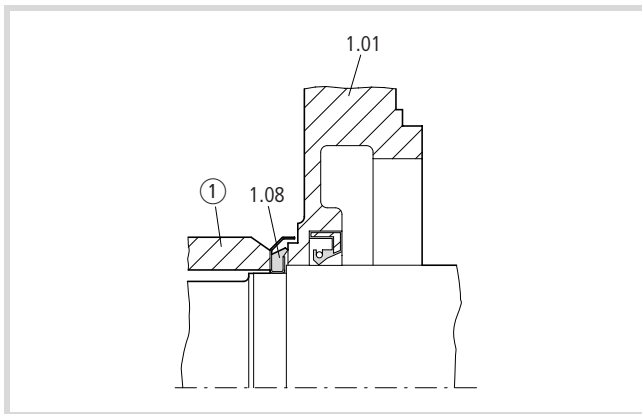

Figure 29: Fitting axial shaft seals
- ▶ Fit any DE (1.08) or NDE (2.06) axial shaft seals using a suitable sleeve bush ① (→ Fig. 29).
- ▶ Depending on type, insert any axial sealing rings with a sleeve bush (→ Fig. 29).